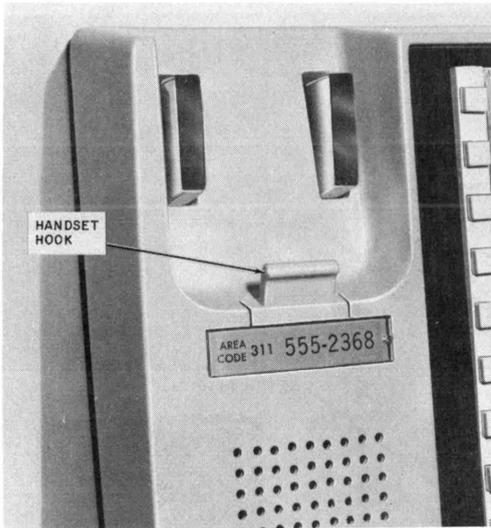
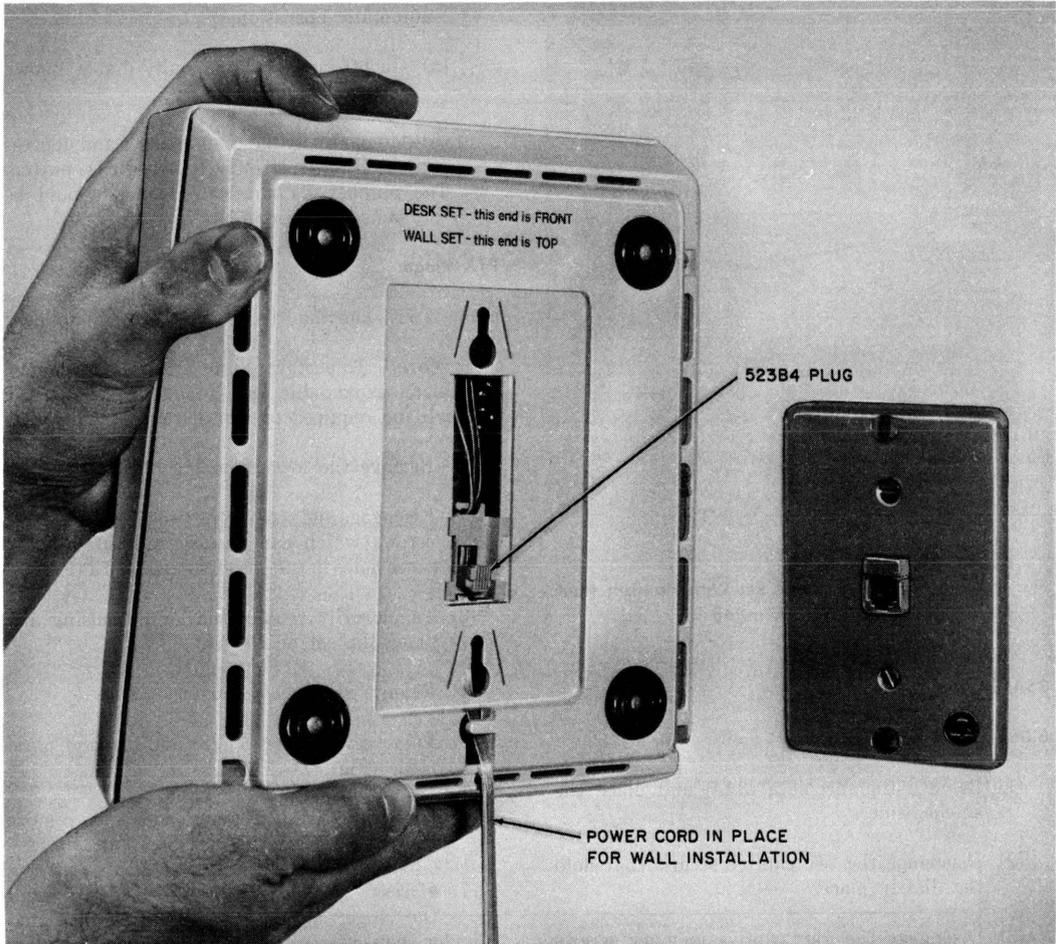

Fig. 9—2960A01M Telephone Set With Handset Hook Reversed for Wall Mounting
Fig. 10—2960A01M Wall Set and 630A4 Connecting Block
- (1) Remove the lower housing (3.16).
- (2) Remove the 523B4 plug from its stored position and snap both sides of the plug into rectangular slot in the bottom of the lower housing. Snap plug in from the outside so that the word **TOP** is properly oriented in the housing (Fig. 10). The plug should slide freely in the slot.
(3) Insert the other end of the 523B4 plug into the jack position designated **PHONE** on the power supply board.
(4) Insert the power cord up through the cord opening below the plastic retainer tab in the bottom of the lower housing (Fig. 10).
(6) Place the lower housing on the chassis according to the instructions on the bottom (Fig. 10).
(7) Engage the four captive screws to fasten the lower housing to the bottom of the chassis.
(8) Remove the station number card retainer and station number card from the upper housing.
(9) Disengage the captive screw from the chassis and lift out the concealed handset hook and screw from the cavity in the upper housing.
(10) Completely remove the captive screw from one side of the handset hook and insert it into the other side.
(11) Place the handset hook back into its cavity in the upper housing, engage the screw with the chassis, and fasten the hook down (Fig. 9).
(12) Replace the station number card and card retainer.
(13) The converted wall set is intended to plug into and secure to a 630A4 connecting block (Fig. 10 and 14B).